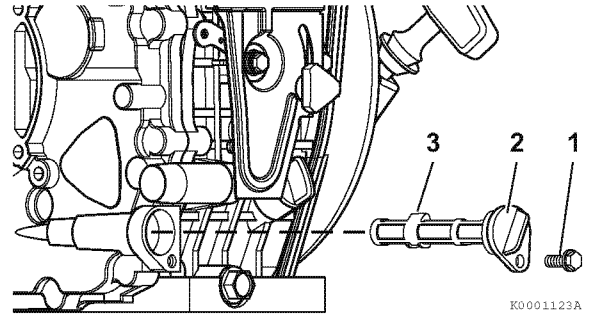

Figure 4
1. Remove the oil filter retaining bolt (1, **Figure 4**).
2. Pull the oil filter cap (2, **Figure 4**) out and remove the oil filter (3, **Figure 4**).
3. Install the new oil filter (3, **Figure 4**).
4. Make sure the oil filter cap is fully seated (2, **Figure 4**).
5. Install and tighten the oil filter retaining bolt (1, **Figure 4**).